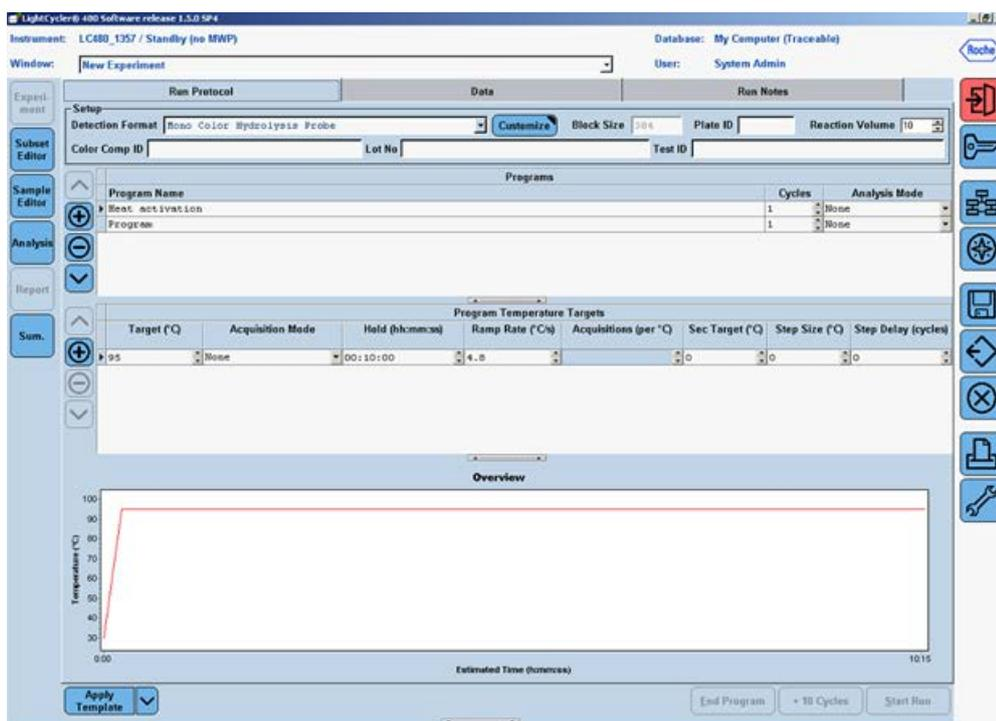

Figure 3. Setup for the first program — “Heat Activation.”
7. Click to change the "Program Name" of the first program to "Heat Activation". Leave the number of "Cycles" at "1" and leave the "Analysis Mode" as "None". In the "Program Temperature Targets" section, enter the values for the following parameters (see Figure 3):